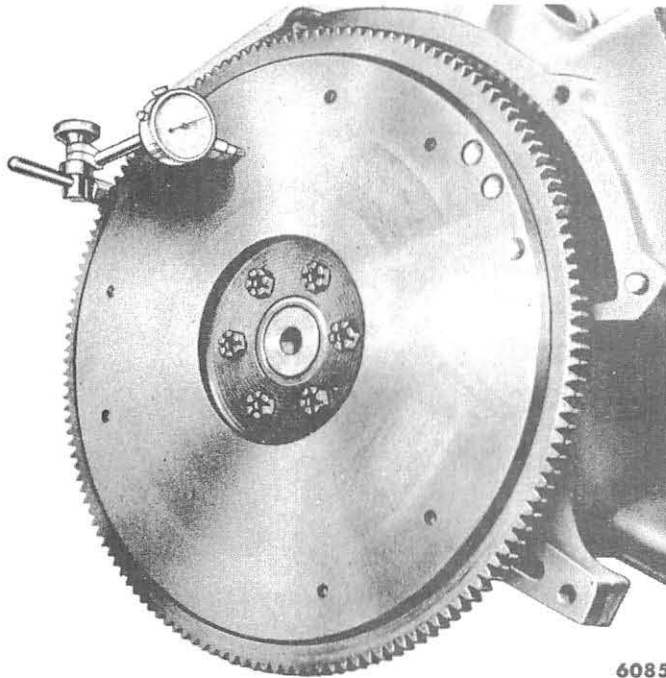

Fig. 30—Flywheel Runout Check
**INSPECTION.** Check the flywheel face runout with a dial indicator (fig. 30). Be sure to hold the flywheel against the crankshaft flange. Check the flywheel runout. If the flywheel runout is excessive, replace the flywheel, and check the crankshaft flange. It will be